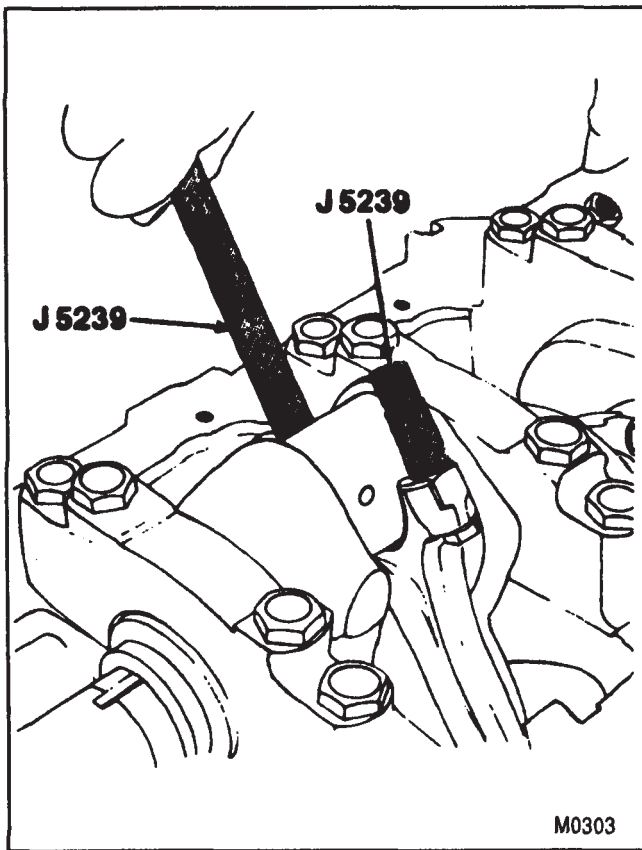

Figure 45—Replacing the Connecting Rod and Piston
**↔ Remove or Disconnect (Figure 45)**
- Attach J 5239 to the connecting rod bolts (figure 45).
#### Install or Connect (Figures 45 through 48)
- Place the piston in its matching bore. The connecting rod bearing tang slots must be on the side opposite the camshaft. Using light blows with a hammer handle, tap the piston down into its bore (figure 47). At the same time, from beneath the vehicle guide the connecting rod to the crankpin with J 5239 (figure 45). Hold the